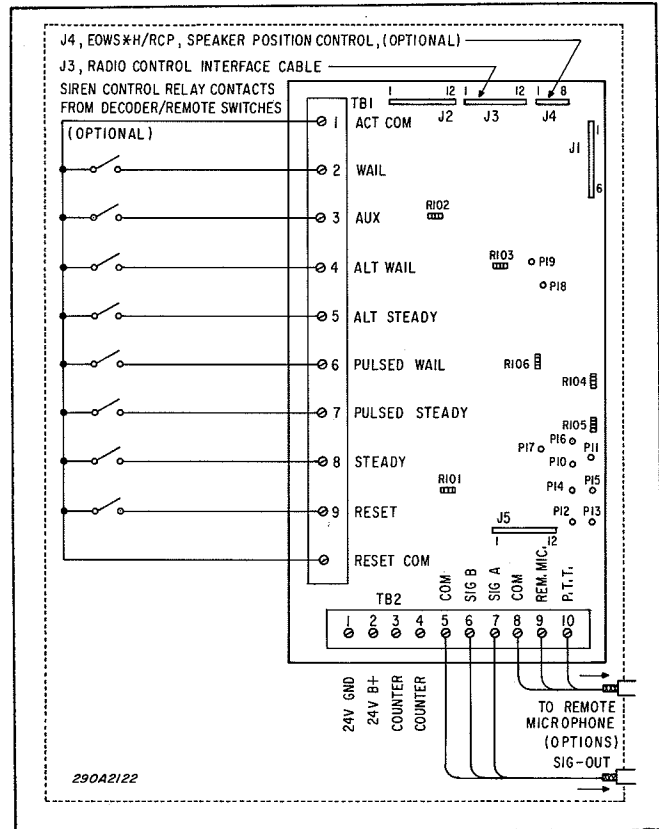
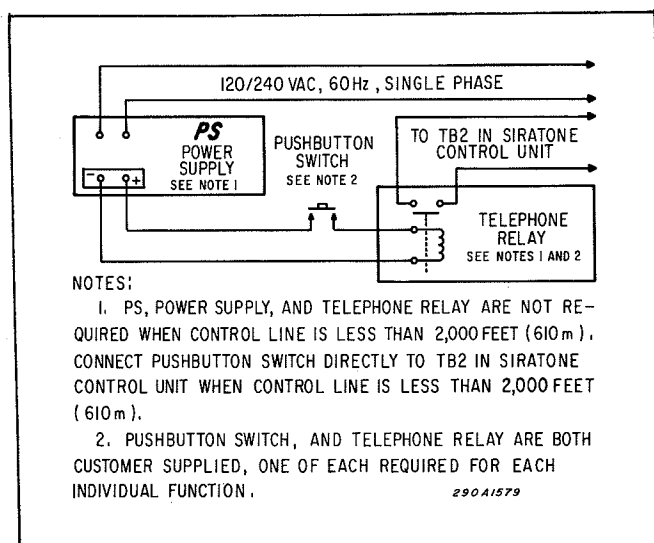

Figure 4-3. Control Unit Wiring Diagram.
Figure 4-5. Landline Control Circuit.
2. If desired, a user-supplied remote microphone can be connected to the SiraTone. Connect the microphone to TB2-8, 9 and 10, as shown in figure 4-3.
3. If the SiraTone is to be landline controlled, install one user-supplied pushbutton switch, for each function, at the control site. If the siren control site is greater than 2000 feet (610m.) from the siren installation, install a SPST telephone relay, such as the Federal Model TRC*1020 between the two sites for each function, as indicated in figure 4-5. In addition, a 48Vdc power supply, such as the Federal Model PS, is required for telephone relay operation. Telephone relays and a power supply are NOT required if the length of the control lines is less than 2000 feet (610m.). Connect each push-button directly to the appropriate terminals of TB1, as shown in figure 4-3.